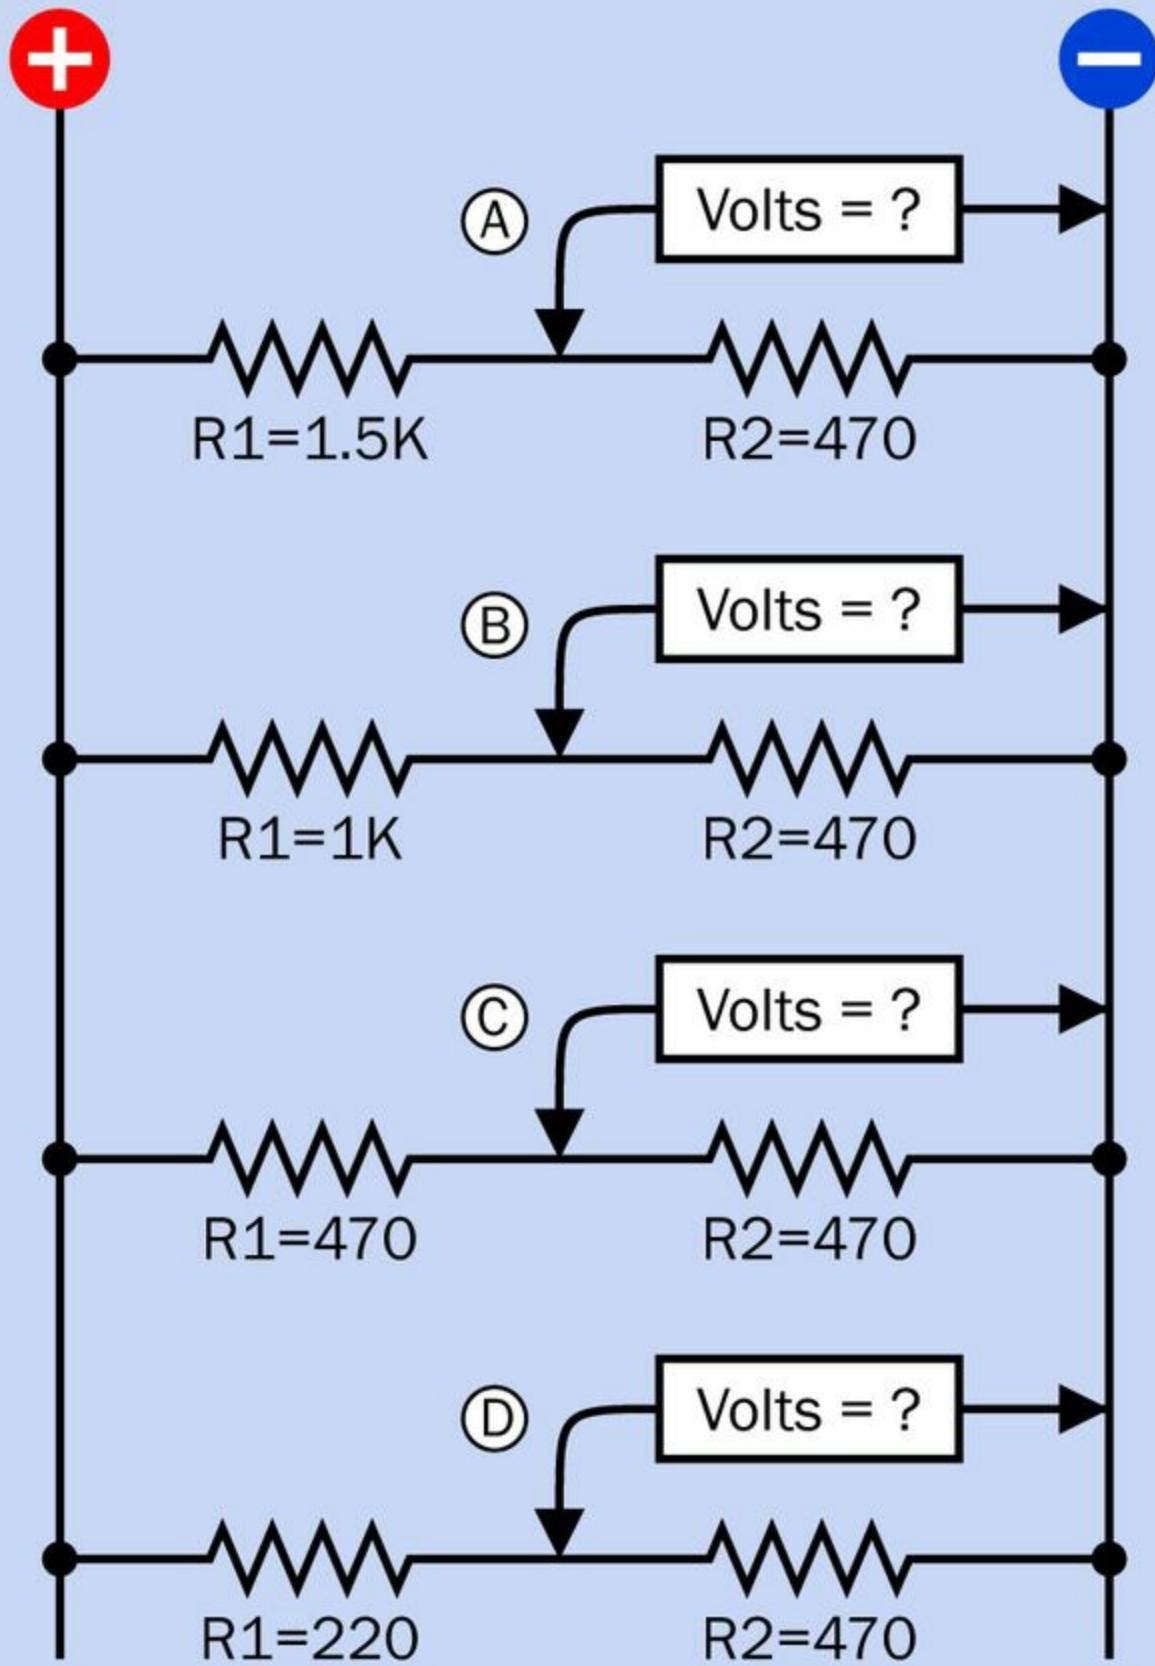

Figure 2-10. The concept of a voltage divider is fundamental in electronics. Make sure that you understand it clearly.
Take a look at Figure 2-10. In this schematic, instead of using a transistor in series with a 470Ω resistor, I've used various other resistors. Can you predict the voltages that will be measured at points A, B, C, and D? This is an experiment that you can perform for yourself very quickly. I'll provide the theoretical answers at the end of this section of the book.
- R_2 is the value of the resistor (in ohms) on the negative side (as in Figure 2-10).